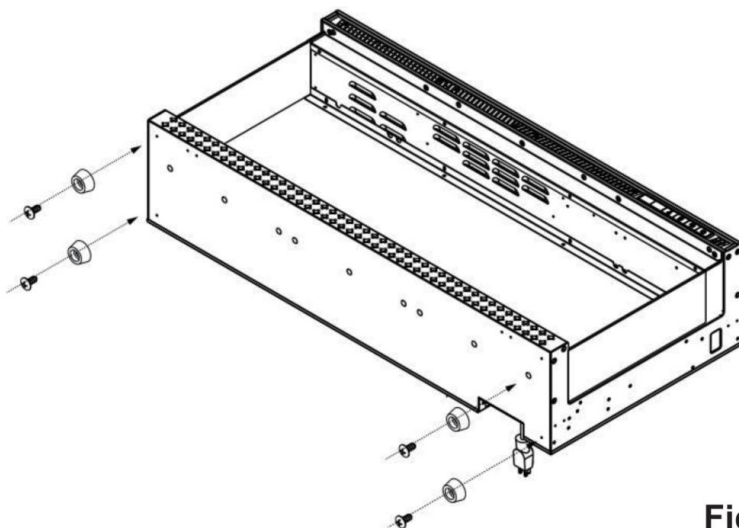

Fig4
4. Lay the heater on the floor or a soft place, install the rubber mats “H” with 4pcs M4x12mm screws as provided, see Fig.4 .